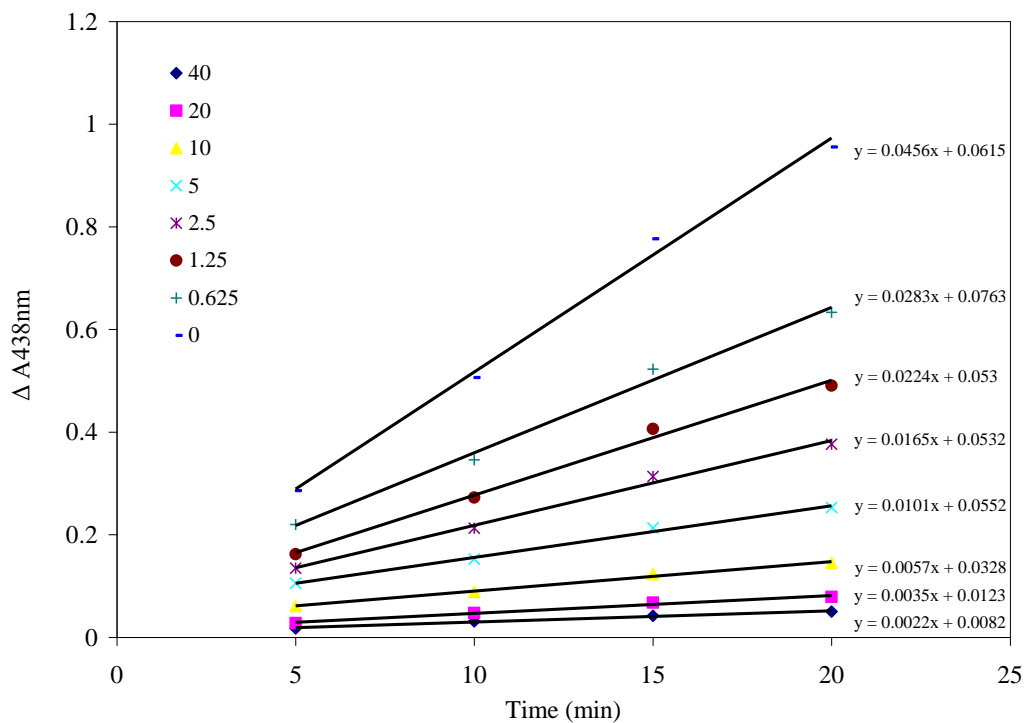
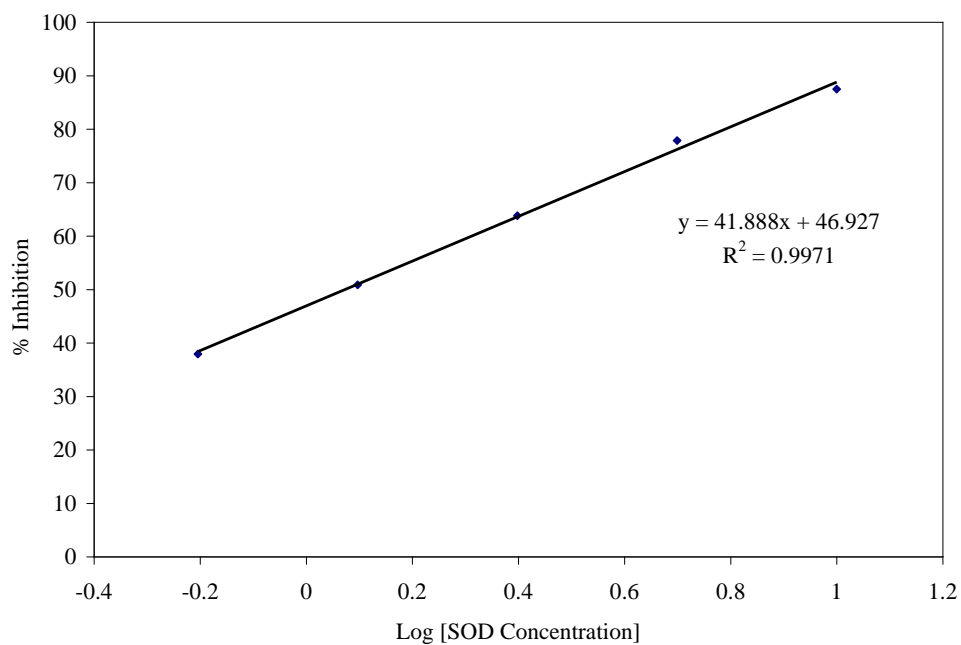

Figure 1. Standard curves of ΔA_{438nm} vs. reaction time for SOD standard solution with different concentrations.
Figure 2. SOD Standard Inhibition Curve of % Inhibition vs. Log [SOD Concentration].
Serially diluted SOD solutions with concentrations ranging from 0.625 to 40 units/ml are measured with the ScienCellTM SOD Assay after different time of reaction, and the resulting standard curves are shown in Figures 1. % Inhibition of reduction reaction can be calculated based on the corresponding $\Delta A_{438nm}/min$ for each SOD concentration. Positive linear relationship between % Inhibition & logarithm of SOD concentration to the base 10 (Log [SOD concentration]) can be observed within the range of 0.625 to 10 units/ml (Figure 2).
2. Based on the $\Delta A_{438\text{nm}}$ of the SOD standard solutions, plot the standard curve of $\Delta A_{438\text{nm}}$ vs. reaction time at different SOD concentration (Figure 1). Calculate the $\Delta A_{438\text{nm}}/\text{min}$ (i.e. rate of the reduction reaction) of each SOD standard as the slope of the corresponding trend lines shown in Figure 1.
4. Based on the % Inhibition of each SOD standard (Table 1), plot the % Inhibition vs. $\log [\text{SOD concentration}]$ as the SOD Standard Inhibition Curve (Figure 2). A linear relationship can be obtained within the range of 0.625-10 U/ml. Determine the equation and R^2 value of the trend line.